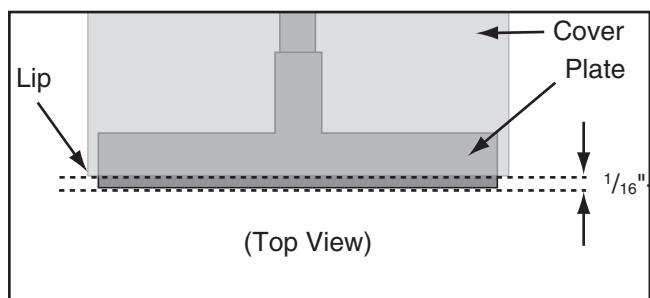

Figure 26. Gap between plate and cover.
7. Adjust the cast iron plate so it protrudes slightly ($\frac{1}{16}$ "- $\frac{1}{8}$ ") beyond the curved lip of the metal cover on both sides, as illustrated in **Figure 26**, to avoid the possibility of workpieces hitting the cover during sanding operations.